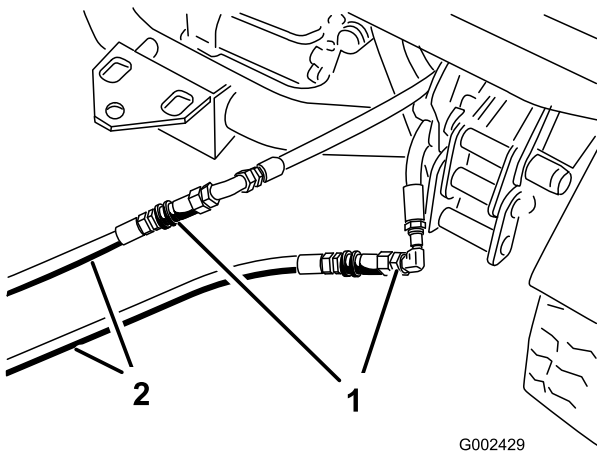

Figure 72
3. On the disabled vehicle, connect the two jumper hoses to the hoses that were disconnected (Figure 72). Cap the unused fittings.